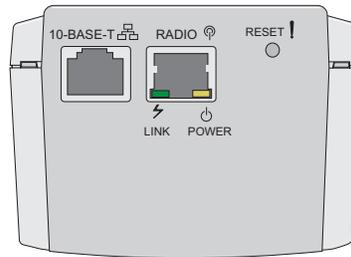

Figure 2-8. Indoor Unit Front Panel
4. Connect the indoor-to-outdoor cable to the radio connector located on the front panel of the indoor unit (shown in Figure 2-8). The indoor-to-outdoor cable should be connected to the unit before it is connected to the main power supply.
To verify proper operation, view the LED indicators located on the front panel of the indoor unit (shown in Figure 2-8 and described in Table 2-4).